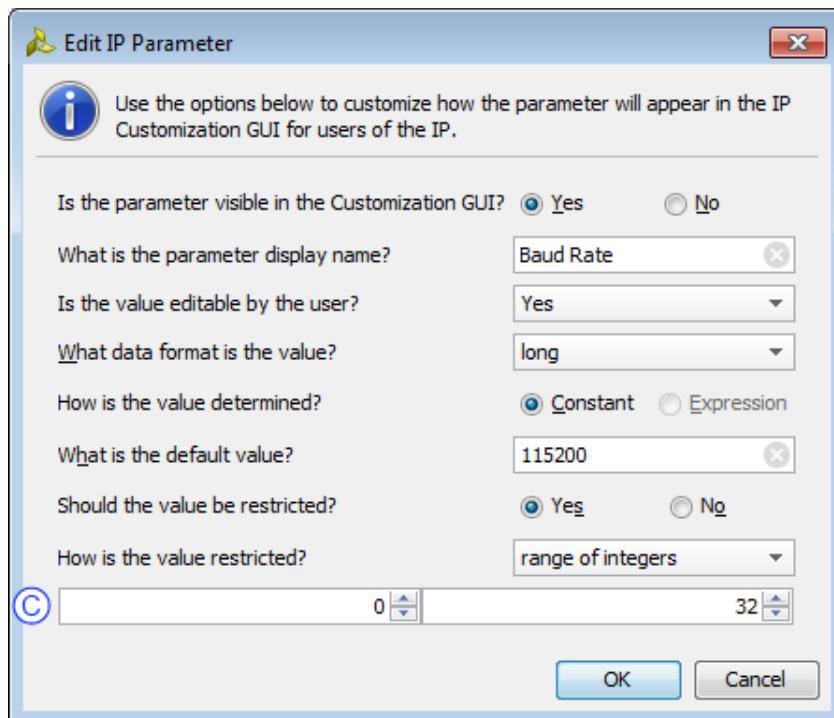

Figure 8-39: Edit IP Parameter Dialog Box with a Range of Integers Restriction
- C. **Range of Integers:** The range of integers restriction limits the values of the parameter to a specified range of numeric integer values. The input boxes, shown in Figure 8-39, control the values.